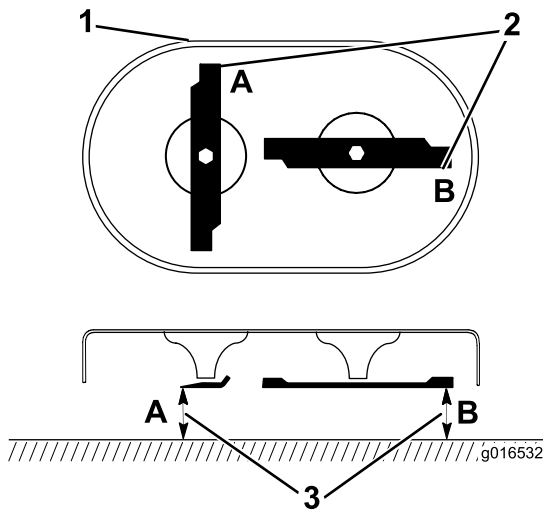

Figure 40
1. Rotate the blades to the position shown in Figure 40.
2. Measure from a level surface to the cutting edges at locations **A** and **B** (Figure 40), and record both dimensions.
3. Rotate the blades so that their opposite ends are at locations **A** and **B** (Figure 40).